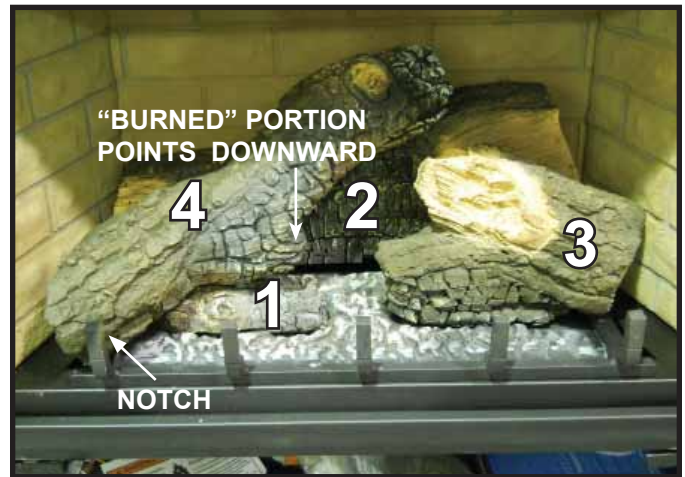

Figure 4.
**LOG #4 (SRV2117-704):** Place log #4 so that the right end of the log sits in the flat spot of log #2. The left end of the log will sit on the left grate tine and also contact the vertical portion of the grate tine as shown in Figure 4. The “burned” part of the log should be pointed downward.